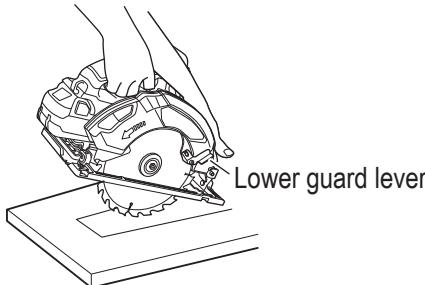

Fig. 38
(1) Mark the desired cutting area clearly with lines all side. (See **Fig. 38**)
- (2) Set depth adjustment according to material to be cut.
- (3) Push the lever all the way back so the blade is exposed as shown in **Fig. 38**.